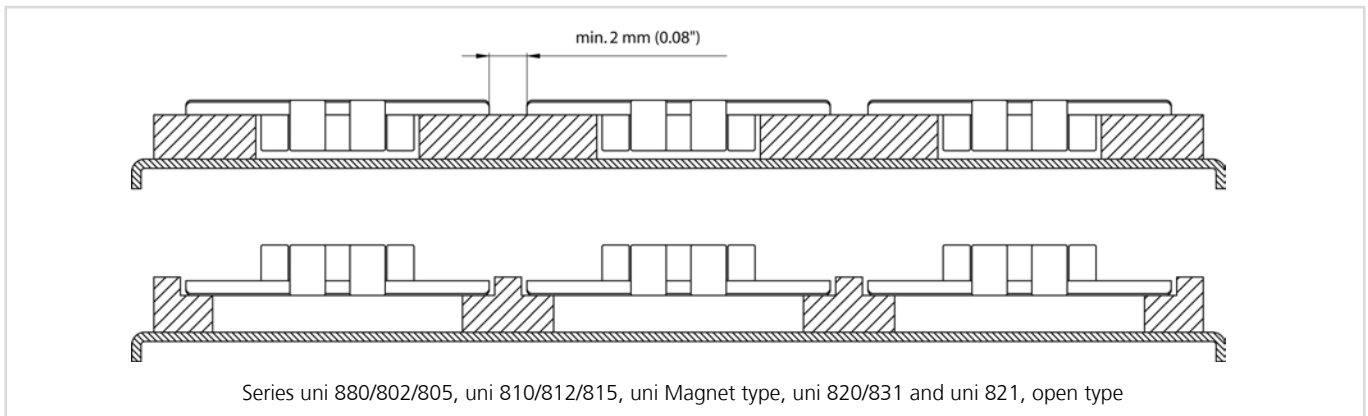
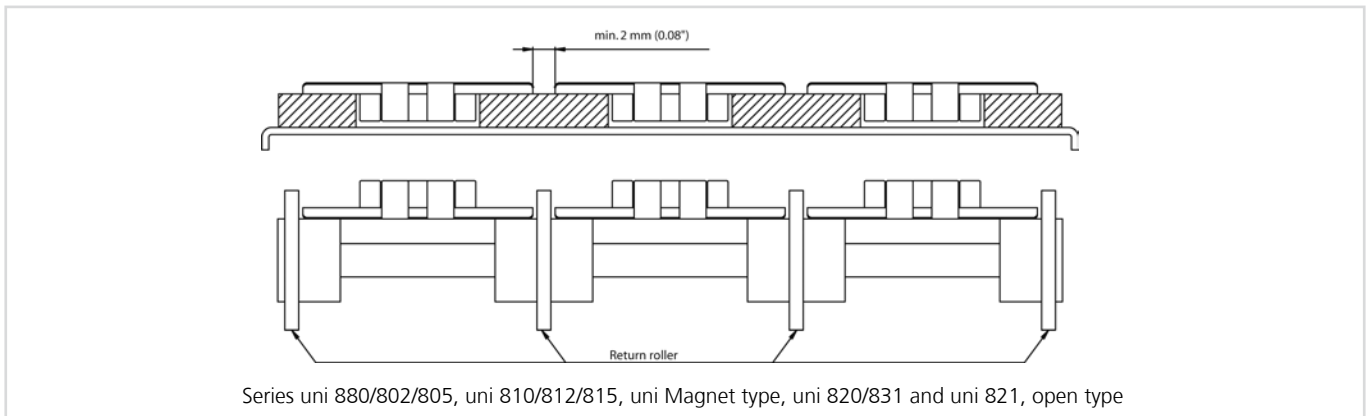
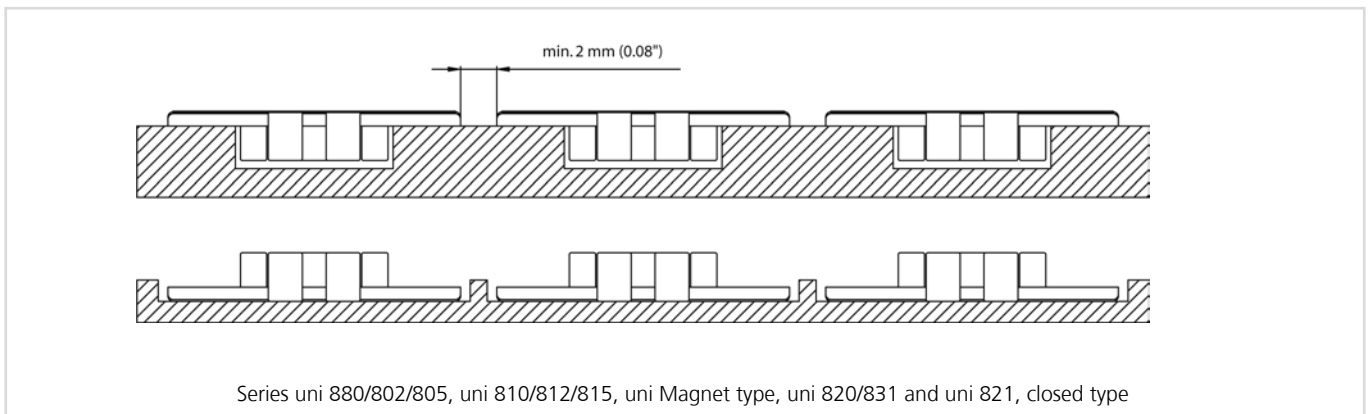

Figure 3-49
Figure 3-50
Figure 3-51
- Recommended distance between chains on carry and return min. 2 mm (0.08 in.). Figure 3-49, figure 3-50 and figure 3-51.